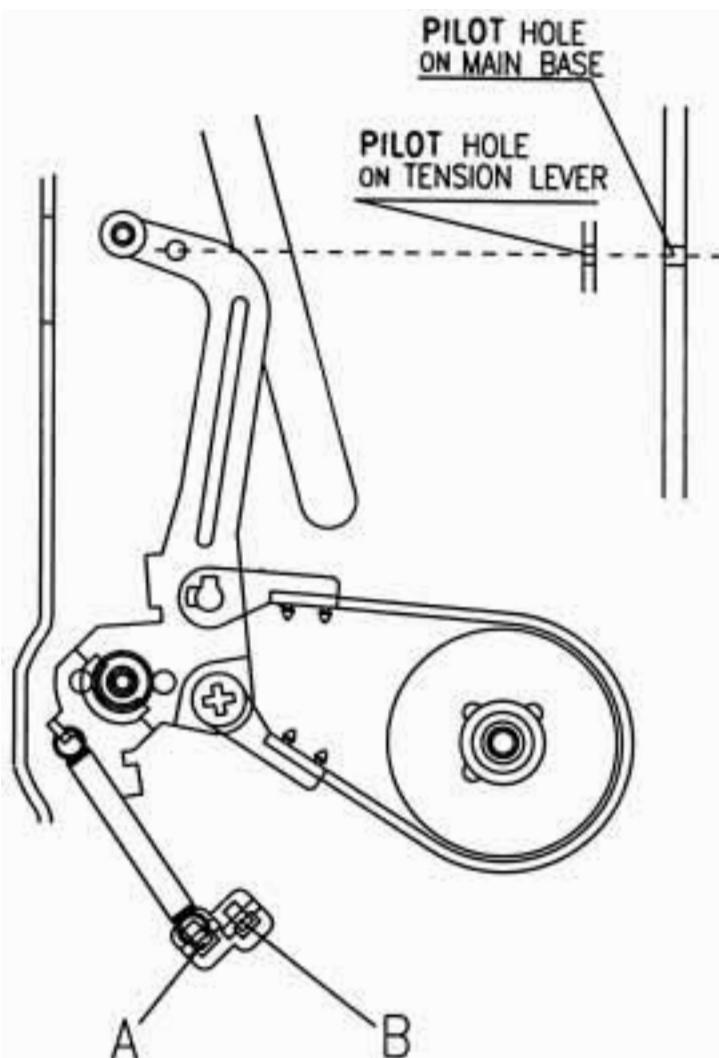

Fig. 7- Tension Pole Position Adjustment
4. If the result is not within the specification, adjust the tension spring (If the measured result exceeds the specification, relocate the spring on the hook "A". If the value does not reach the specification, relocate the spring on the hook "B"). and repeat the step 1 thru 3 of "Tension Pole Position Adjustment" (fig. 7).